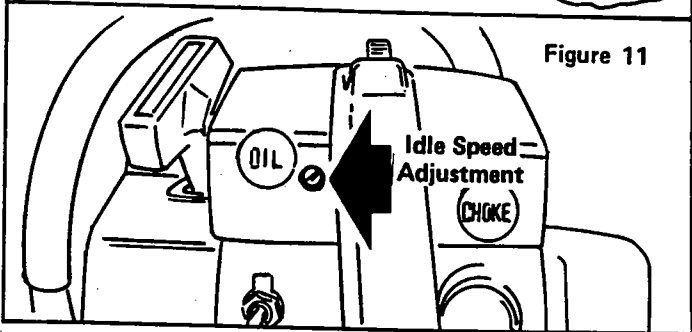

Figure 11
4. Start the engine. If it stops, increase the idle speed by turning the idle speed screw clockwise . (Figure 11)